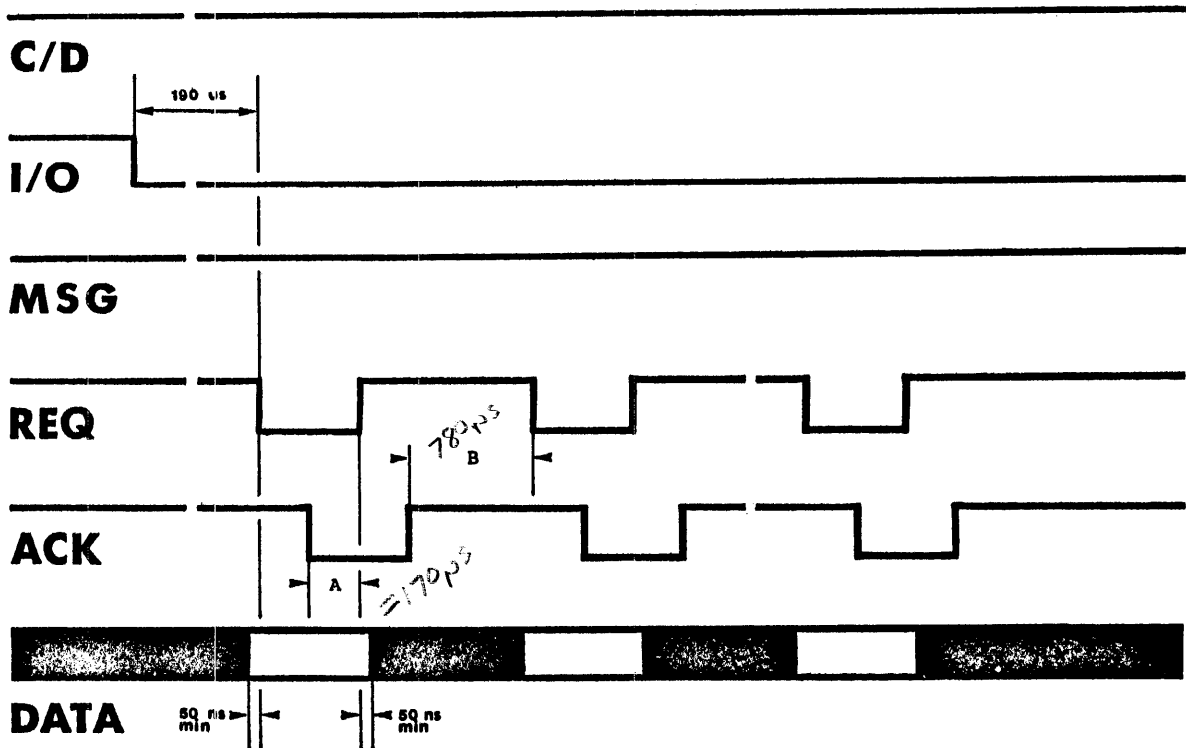

Figure 6.3 Data In Phase Timing Chart
**NOTE:** Refer to Figures 6.3 and 6.4 for timing variations on boards with the following Revision numbers: